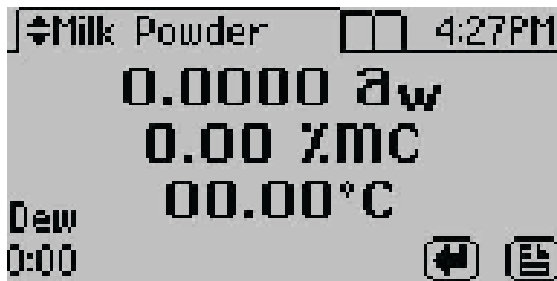

Figure 4 Measurement screen for Milk Powder product model
2. Use the **UP** and **DOWN** buttons to scroll through all available product models that may be used (Figure 4).